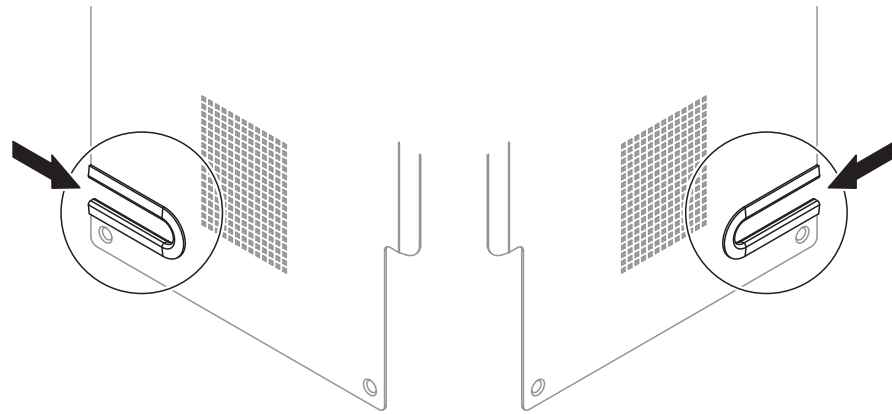

Fig. 21: Hose passage with mounted edge protection left/right
2. Break out the pre-cut hose passage on the desired side of the Condair RO-E(+) unit cover. Attach the edge protector as shown in Fig. 21 and press it completely into the curve.